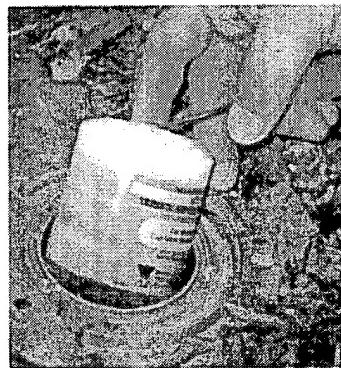

Fig. 1
- The stations will be checked regularly for termite activity. (*Fig. 1*)